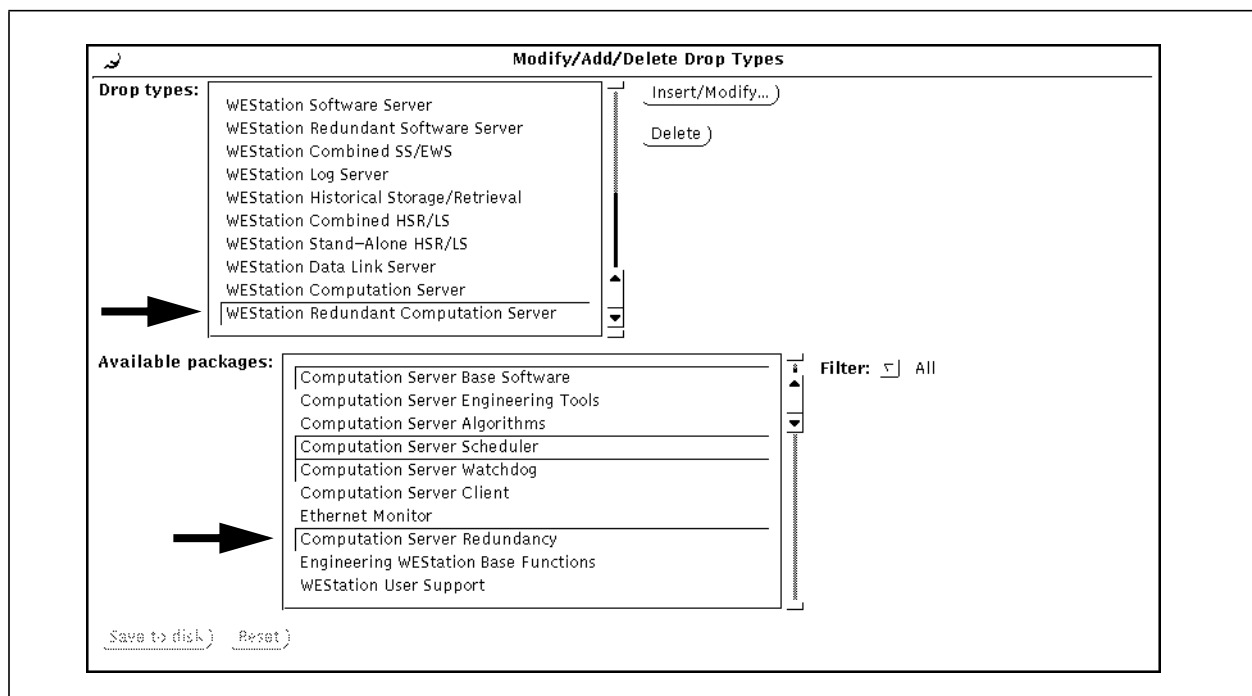

Figure A-3. Modify/Add/Delete Drops Types Window
2. Select the **Modify/Add/Delete** button to access the **Modify /Add/Delete Drop Types** window (see Figure A-3).
10. Select the **Insert** button. This adds the new drop type to the Drop types list on the Modify/Add Delete window and returns to the **Modify/Add/Delete Drop Types** window (refer to Figure A-3).
2. Select the **Modify/Add/Delete** button to access the **Modify/Add/Delete Drop Types** window (refer to Figure A-3).